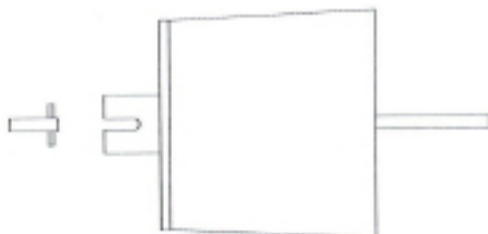

Fig. 3
- Slide the closed end of the evaporator pad assembly onto the motor shaft and swing the shaft into the saddle bearing at the opposite end (see Fig. 3).